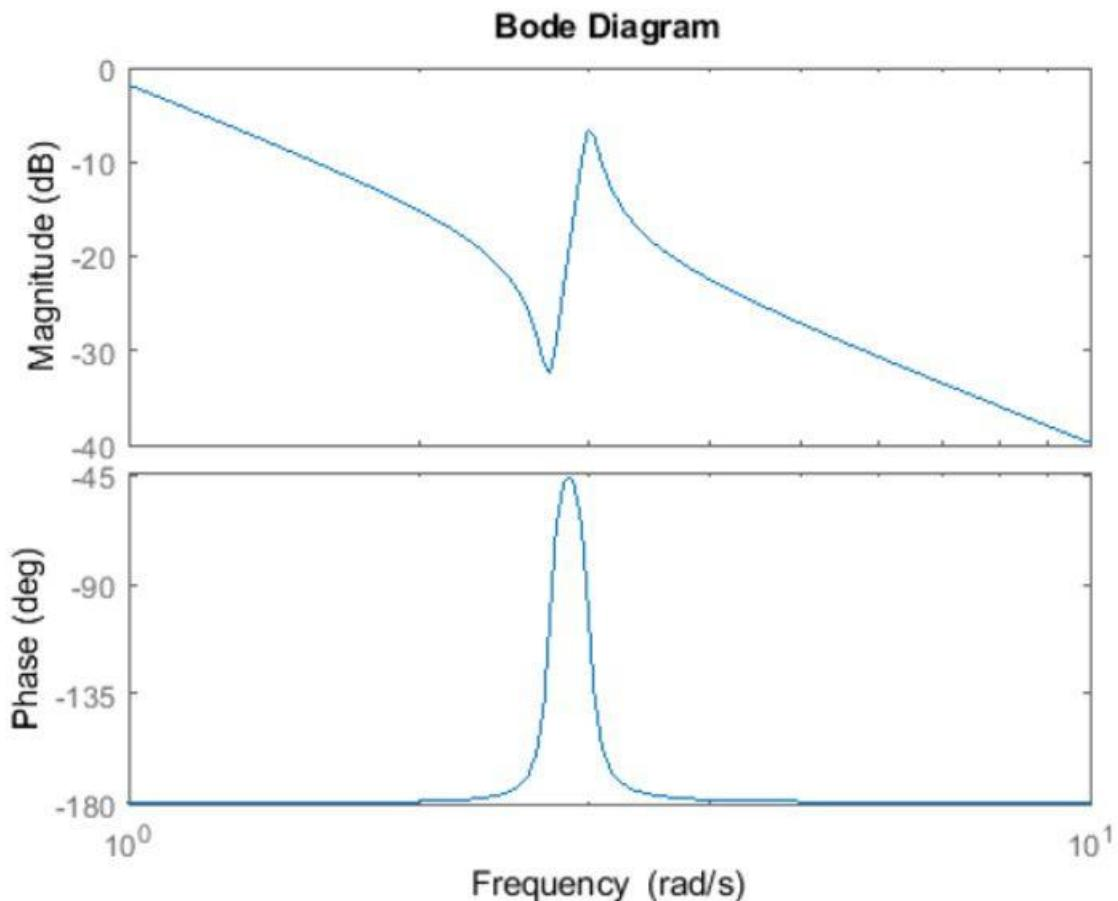

Figure 4: Bode plot.
1. If you have a linear representation of the system in the form of a transfer function or state-space model, you can plot the frequency response using one of the three plots: a **Bode plot**, **Nyquist plot**, or a **Nichols chart**. The Bode plot displays magnitude and phase as functions of the frequency of the excitation signal (Fig. 4).